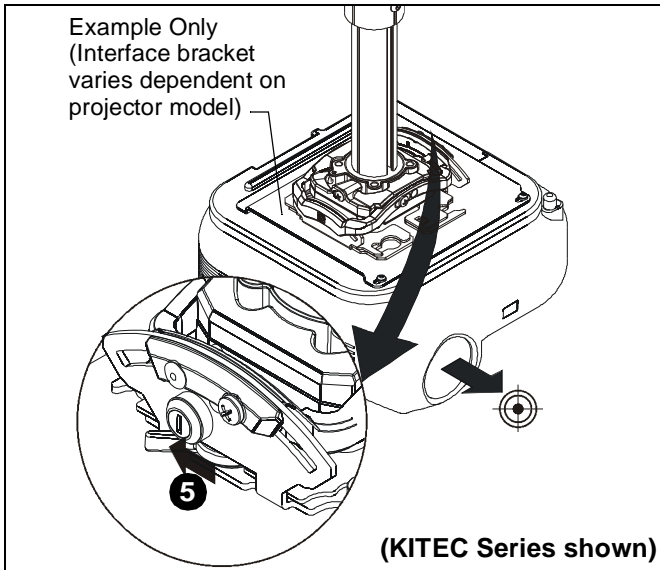

Figure 21
5. Move locking lever to "Locked" position. (See Figure 21)